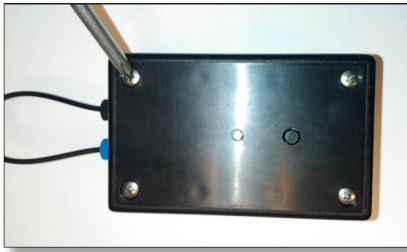

Figure 12 - Removing the four screws to open the case
- Fiber optic cable: 1mm diameter, with a 2.2mm diameter polyethylene (PE) jacket (e.g. Industrial Fiber Optics SH4001 Eska series p/n 810004 or equivalent)
- Cable length must be sufficient to secure the protected device, AND allow enough cable to attach the Transmitter to a nearby, secured surface. Additionally, the length must include enough cable to allow the cable to be inserted into the cable terminals at the top of the Transmitter (see Figure 12). The user will provide the fiber optic cable.